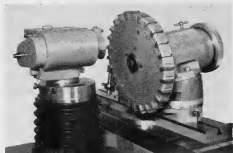

Figure 60A
2. Depending on the diameter of the cutter, adjust the lower swivel (Figure 22C) so as to position the eccentric wheelhead in a position toward the slide table (Figure 60A).